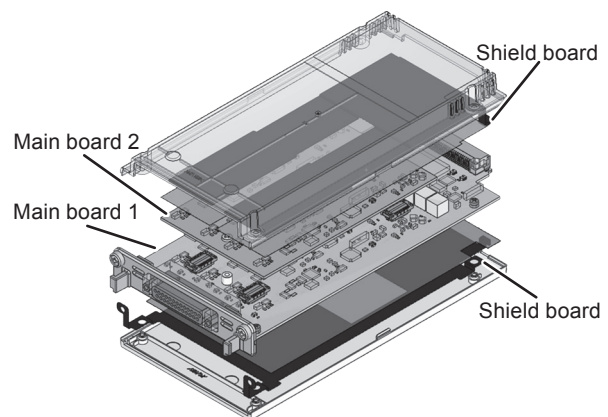

Fig. 5. U8794 structural diagram (exploded view).
3) *Construction*: Fig. 5 provides a structural diagram (exploded view) of the U8794.